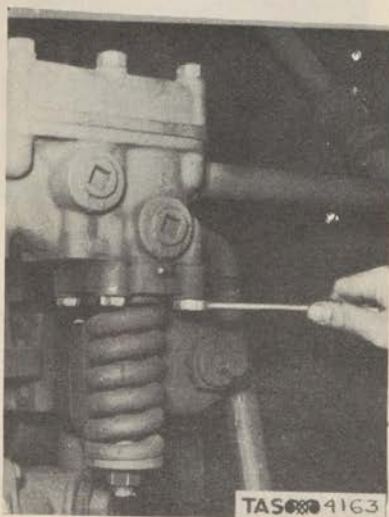
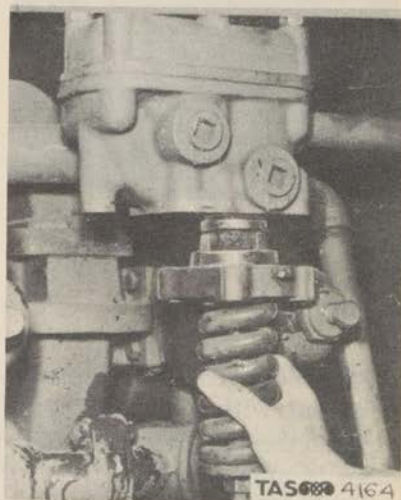

Figure 198. Loosening Controller Packing Box Screws.
Figure 199. Removal of Piston Rod Assembly.
(3) Removing controller valve seat. When controller piston packing needs replacement the piston rod assembly must be taken apart. The first step is to remove the four (4) packing box cap screws (fig. 198), which will permit the removal of the complete piston rod assembly. (Fig. 199) Removal of